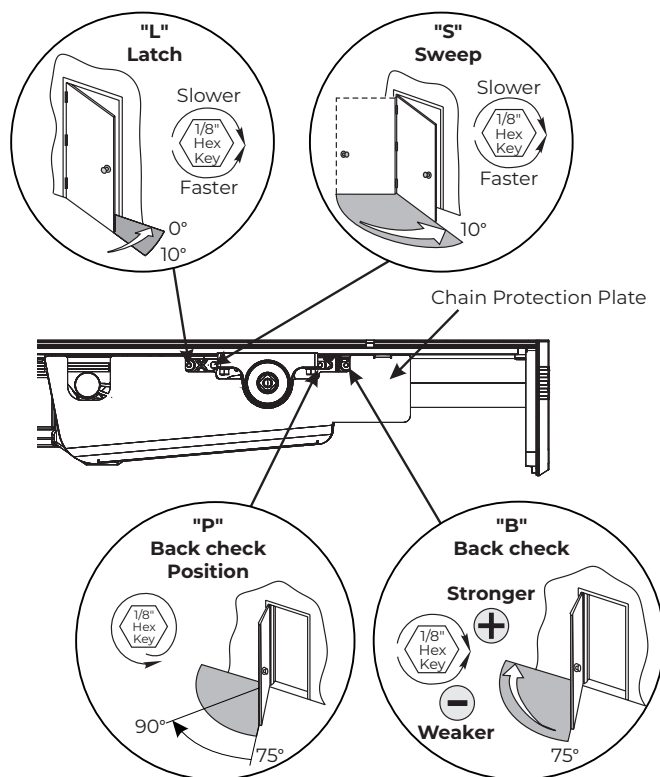

Figure 32 View of Right Door operator from ceiling looking down
- Chain protection plate cutouts allow access to valves. Use hex wrench to make adjustments. (Figure 32)
1. Closing Speed Controls (Figure 32)
2. Opening Cycle (Figure 32)